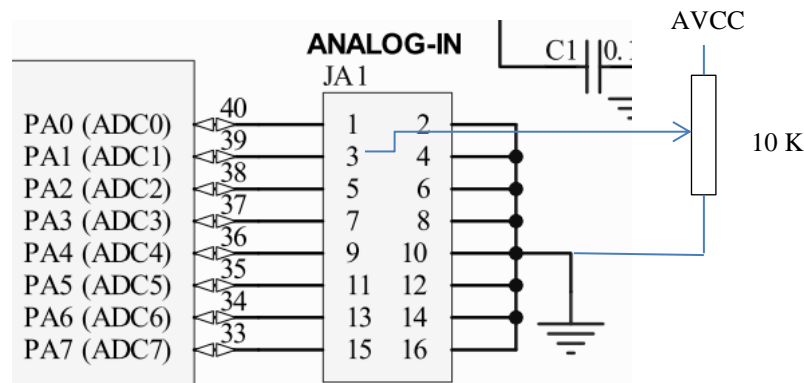

Figure 23 – Connection of a variable input on Ch(1) potentiometer – See page 2 of the CL2bm1 schematic in the repository.
3.b.5.3 Real connection of Analog inputs: As an example, Figure 23 shows a variable input test setup using a 10 kOhm variable resistor or potentiometer, connected to a clean analog +5Vdc source or AVCC, and to Ch(1) input. [Caution must be taken not to exceed 5 V in any input]. This setup will show Ch(1) readings the terminal program from 0 (0V) to 1023 (near 5V).